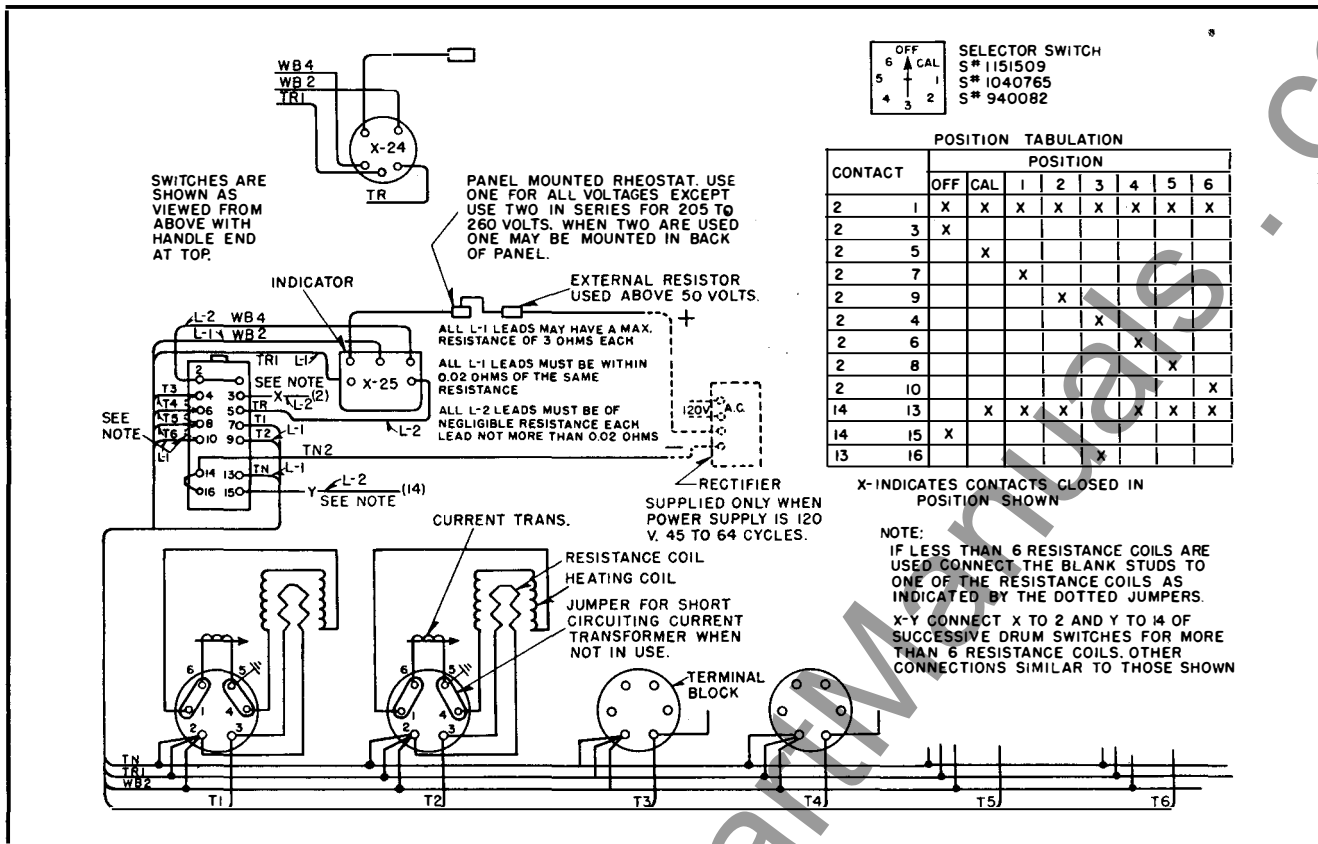

FIG. 2. Wiring Diagram for Temperature Indicator
6. Mount the temperature indicator and resistance on the switchboard and connect to the terminal box on the transformer as shown in Fig. 2 using 19-0226 (9700 C. M.) rubber-insulated weatherproof cable, or larger.